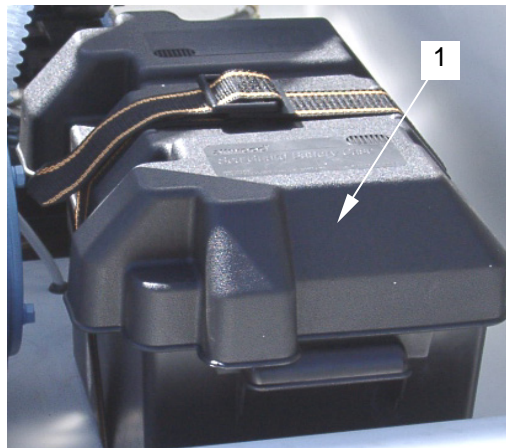

Figure 5. Battery Box
11. Install a new battery box (**figure 5, item 1**), as necessary, with retained hardware.